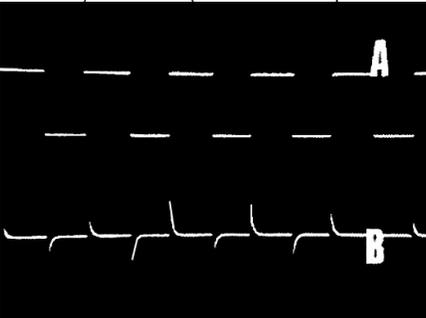

Fig.4. Display of square-waves (A) and marker pips obtained by differentiation. See also Fig.5 and text for further explanation.
Finally Fig. 4 shows five complete cycles of a square-wave at a frequency of 1000Hz (A). What is the duration of the time base? Each complete cycle is 1mS so the timebase speed is 5mS, (just over in fact as another quarter-cycle appears at the extreme right). The waveform (B) below, shows marker pips, derived by differentiation of the square-wave. These are more convenient for calibration of unknown duration.